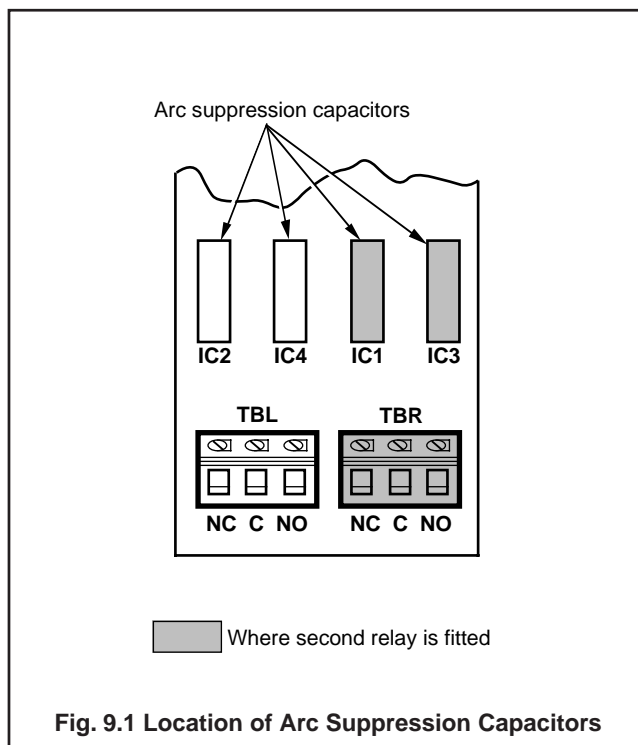

Fig. 9.1 Location of Arc Suppression Capacitors
9.1 Arc Suppression Capacitors – Fig. 9.1
Unsolder the appropriate capacitors as shown in Fig. 9.1 and refit the module.